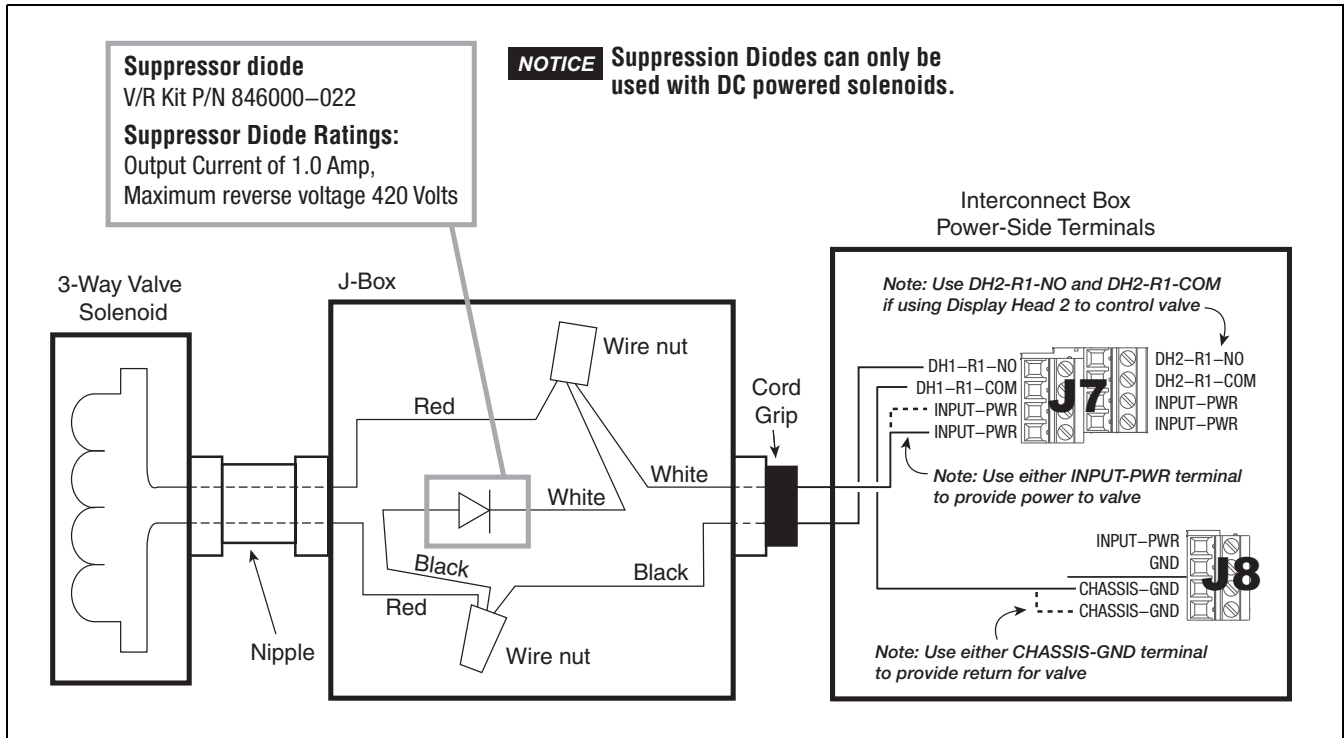

Figure 26. Connecting 3-Way Valve To The Interconnect Box
6. At the IB Box, connect the 3-way valve solenoid and a jumper to J7 and J8 as shown in Figure 26.